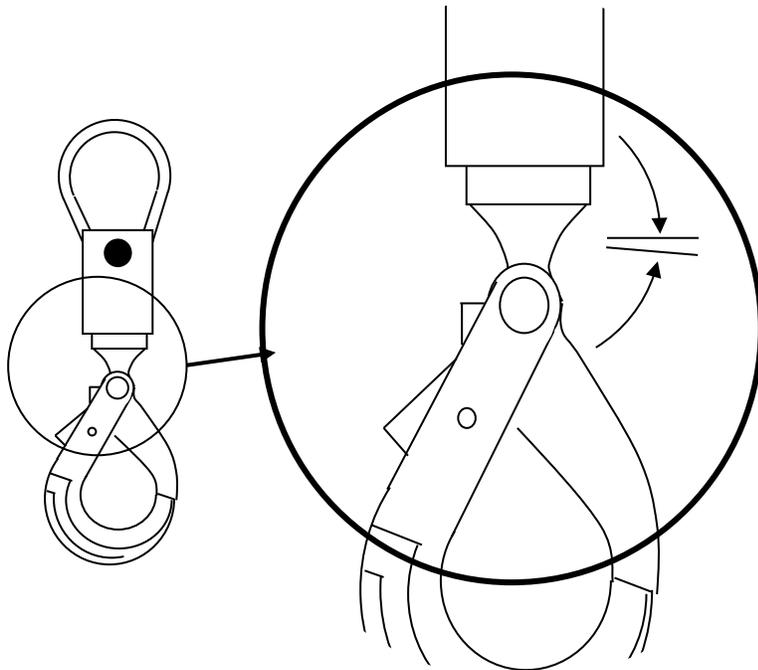

Figure 2. Excessive Lateral Movement
- b. The lateral movement test described in *Initial Inspection/Disposal Criteria #2*, except that maximum lateral movement shall be less than 2 degrees, see Figure 2.